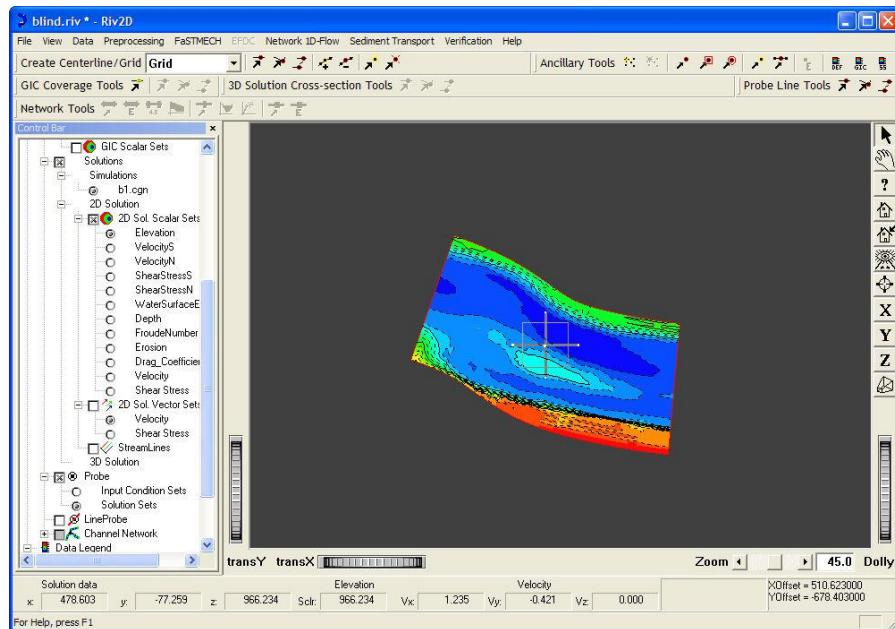

Figure 3.1.3h. The Probe Jack dragger on the 2D Sol. Scalar - Set Elevation and 2D Sol. Vector Set - Velocity.
4. Notice the that the Status Bar at the bottom of the application (fig. 3.1.3h) displays the current **2D Sol. Scalar Set** and its value and the current **2D Sol. Vector Set** and its component values.